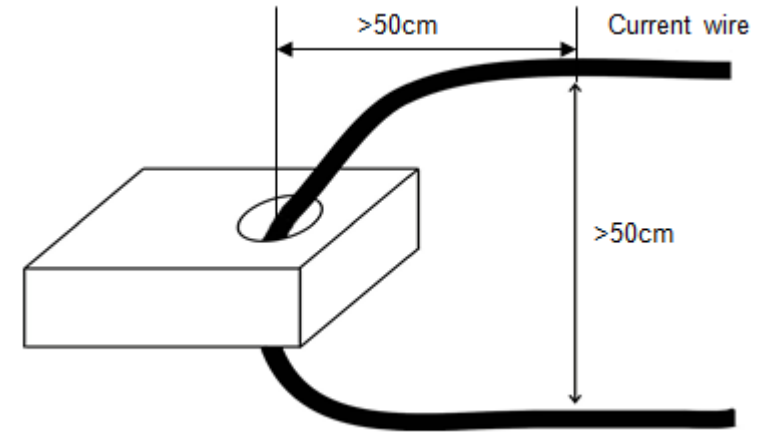

Figure 2 Current wire threading requirement
2. The input current wire of the converter should not be placed in too small circle, and the distance between the incoming and outgoing wires of the current should be at least 50cm, see the figure 2, otherwise it will affect the measuring accuracy.